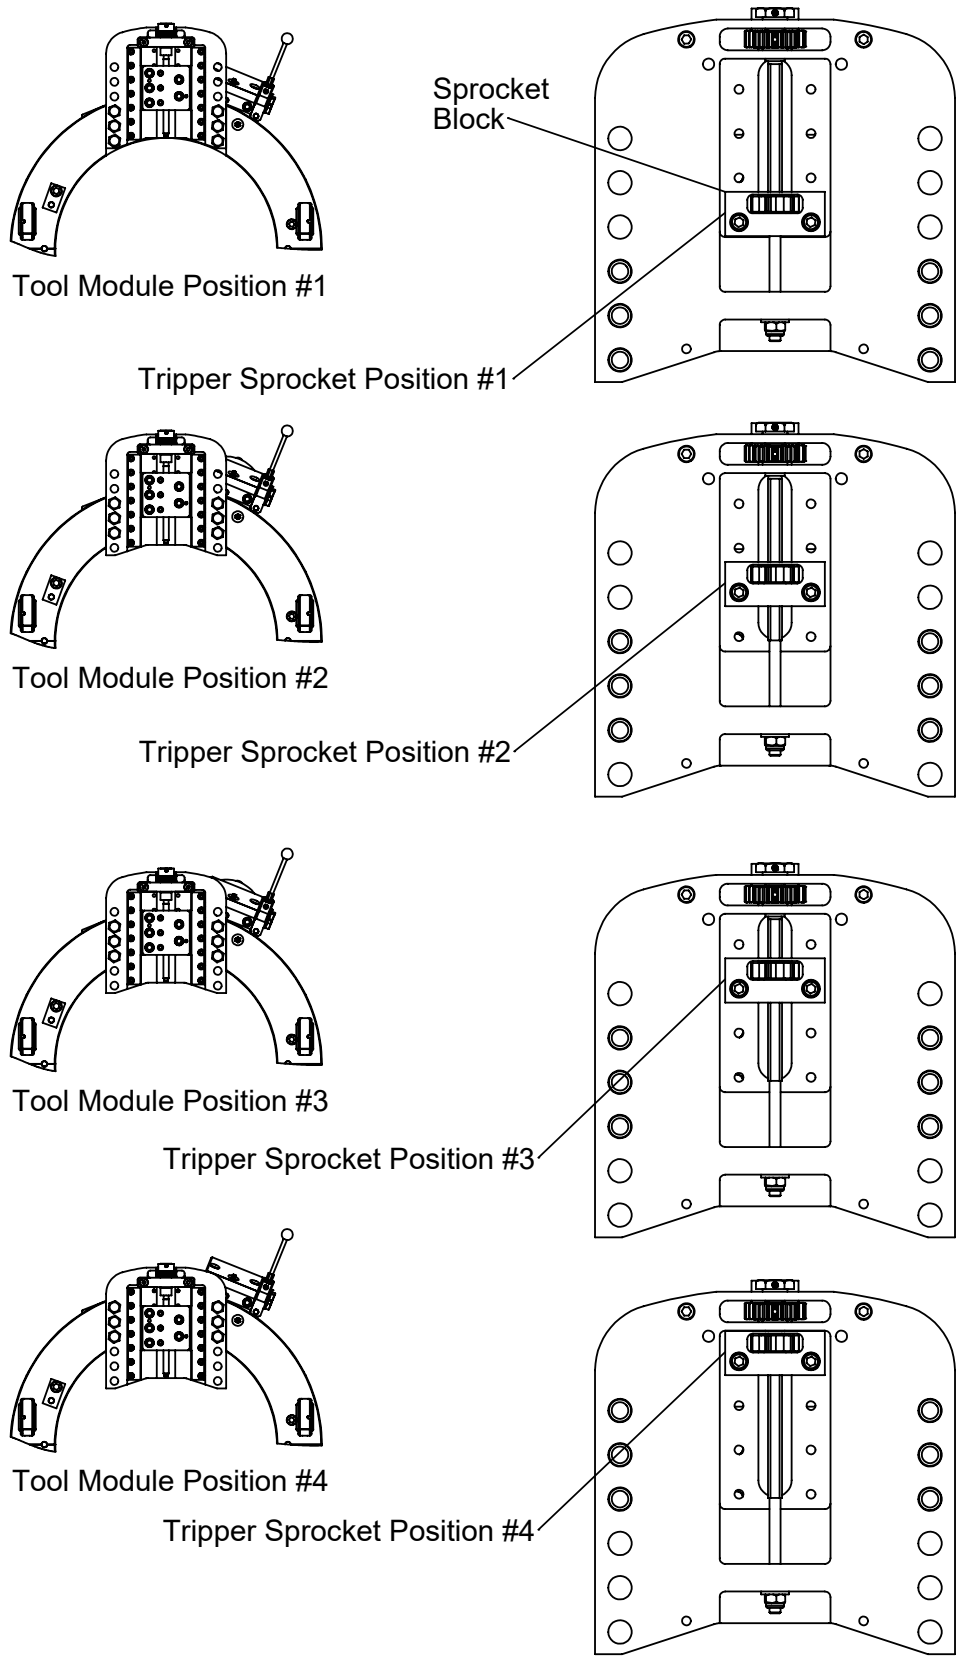

Figure 7: Positions for Tool Module and Tripper Sprocket Timing
1. Before mounting the Tool Module to the Headstock, position the Tripper Sprocket. The Tool Module has four (4) possible mounting positions (refer to Fig. 7).
3. Remove the two (2) 1/4-20 Cap Screws from the Sprocket Block. Slide the Sprocket Block and Sprocket to the correct position and reinstall the two (2) 1/4-20 Cap Screws.